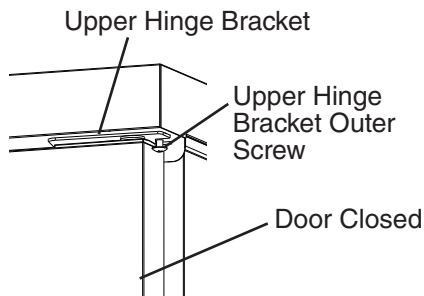
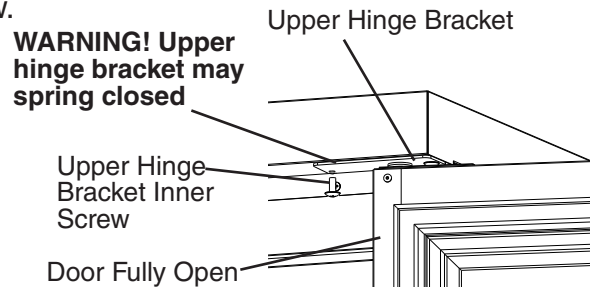

Fig. 29
Fig. 30
- 10) With the door closed, loosen, but do not remove, the upper hinge bracket outer screw. See Fig. 29. Next, open the door to the fully open position and remove the upper hinge bracket inner screw. See Fig. 30.